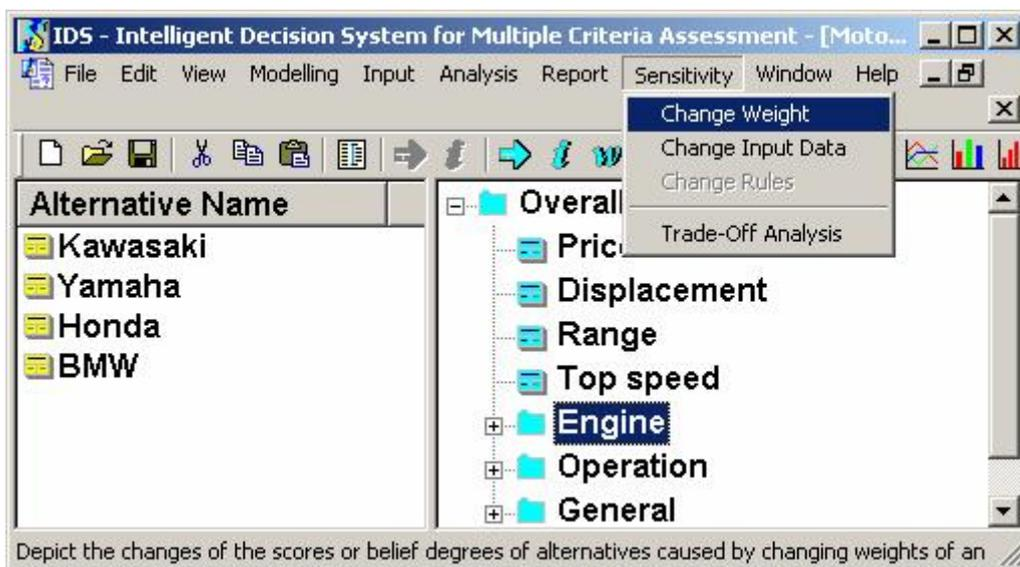
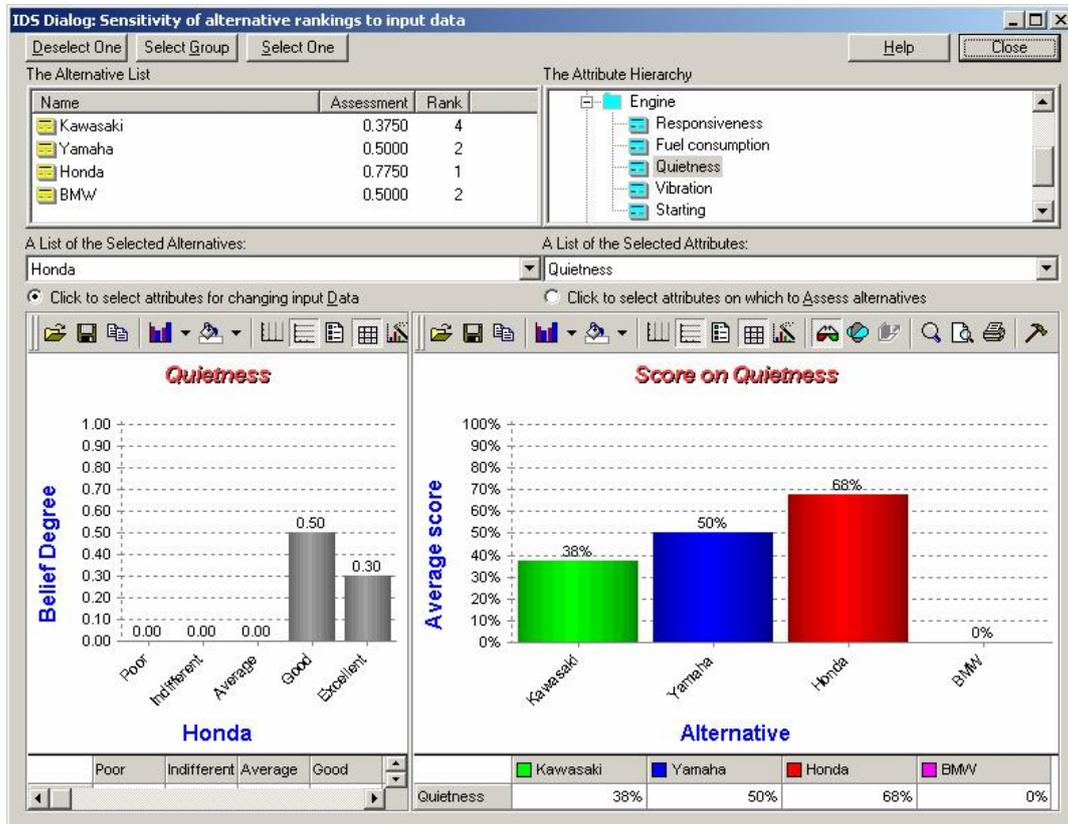
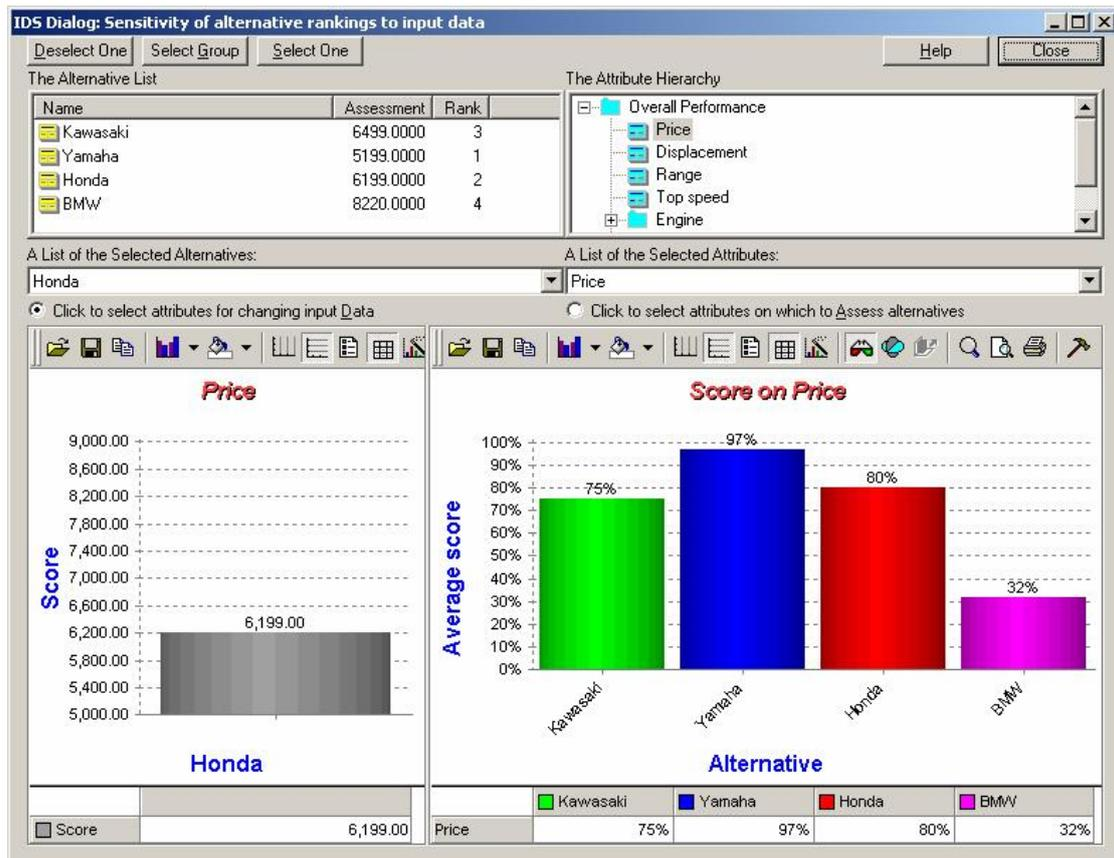
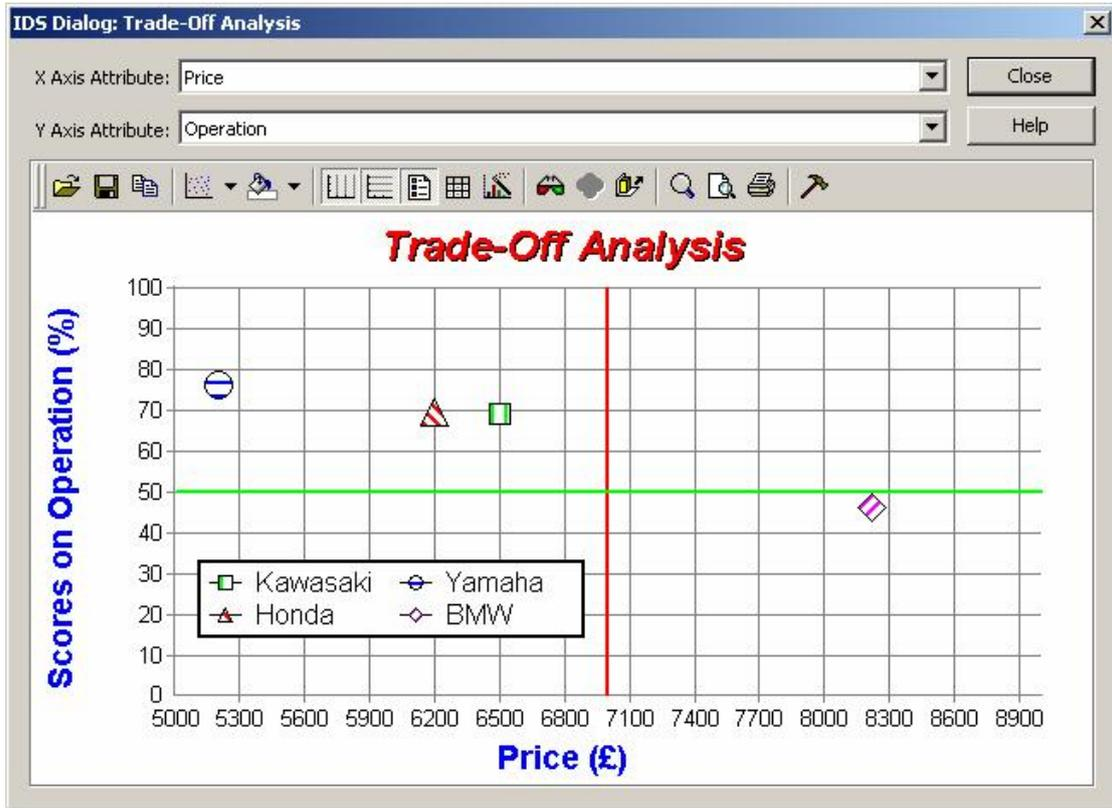

Figure 6.1 Menu Selection for Sensitivity Analysis
Figure 6.5 Ranking Sensitivity Analysis on Change of Input Data for Qualitative Attributes
Figure 6.6 Ranking Sensitivity Analysis on Change of Input Data for Quantitative Attributes
Figure 6.7 Trade-Off Analysis
1. Click once on the attribute you are interested in changing its weight, for example, *Engine*, in the right pane of the IDS main window (**Figure 6.1**),
2. Select from the menu bar of the main window *Sensitivity -> Change Weight* (**Figure 6.1**). This will invoke a graphic window shown in **Figure 6.2**.
If you are only interested in the ranking of a number of alternatives, you may add or remove alternatives displayed in the lower right pane of the window by clicking on the alternatives listed in the upper left pane or the *A List of the Selected Alternatives:* dropdown list (**Figure 6.5**), and then clicking the button *Select One* or *Deselect One* respectively. Check that the alternatives listed in the *A List of the Selected Alternatives:* dropdown list are what you are interested in.
1. Click once on an alternative, for example *Honda*, in the left pane of the IDS main window (**Figure 6.1**) to select it.
2. Click once on the attribute in the right pane of the IDS main window (**Figure 6.1**) on which you wish to change the assessment data for the selected alternative. The attributes have to be at the bottom level of the hierarchy, for example, *Quietness*, in the right pane of the IDS main window (**Figure 6.1**),
3. Select from the menu bar of the main window *Sensitivity* -> *Change Input Data* (**Figure 6.1**). This will generate a graph shown in **Figure 6.5**.
dragging and dropping the bars (from the top edge or zero level if the belief degree is 0.00 and the bar is not shown) corresponding to the belief degrees of the assessment grades for the attribute if it is of a qualitative type (**Figure 6.5**) or the attribute value if it is of a quantitative type (**Figure 6.6**). The scores of all the alternatives on the selected attribute change accordingly and are dynamically updated in the lower right pane of the window.
There are various options in this window to allow you to select any alternative and any bottom level attribute for changing input data through the lower left pane of the window (Figure 6.5 or Figure 6.6). You can also choose any attribute or a number of attributes from different levels in the hierarchy on which to view the ranking changes simultaneously.
If you are only interested in the ranking of a number of alternatives, you may add or remove alternatives displayed in the lower right pane of the window by clicking on the alternatives listed in the upper left pane or the *A List of the Selected Alternatives:* dropdown list (Figure 6.5), and then clicking the button *Select One* or *Deselect One* respectively. Check that the alternatives listed in the *A List of the Selected Alternatives:* dropdown list are what you are interested in.
If you wish to add or remove attributes in the lower right pane of the window, so that you can examine the rankings of the alternatives on these attributes, you should first make sure the radio button (on the right) *Click to Select attributes on which to Assess alternatives* is selected. Then you can click on the attributes listed in the upper right pane or the *A List of the Selected Attributes:* dropdown list (Figure 6.5), and click the button *Select One* or *Deselect One* respectively.
From the window shown in **Figure 6.5**, you may select any bottom level attribute for changing input data for a selected alternative. Changing the selection of an alternative is discussed in the next section.
If you wish to change the assessment information for the attribute currently displayed in the lower left pane of the window, you should first make sure that the radio button (on the left) *Click to Select attributes for Changing input Data* is selected. Then you can double click on the attribute you wish to select from the upper right pane (**Figure 6.5**). As soon as you double click on the attribute, the assessment information for the selected alternative on the attribute will be displayed in the lower left pane of the window. You may use the mouse to drag and drop the edge of the bars to change the input data and see the effects of the changes in the lower right pane.
To change the selection of alternative for changing input data on the selected attribute is simple. You need only to click once on the bar corresponding to the alternative in which you are interested in the lower right pane of the window (**Figure 6.5**). If the alternative is not shown in the pane, you may follow the instruction described in **Section 6.2.1** to add it on in the lower right pane of the window.
1. Click once on an attribute in any level of the attribute hierarchy, for example *Price*, in the right pane of the IDS main window (**Figure 6.1**).
3. Click the  button from the toolbar of the main window (**Figure 6.1**). This will invoke the graphic window shown in **Figure 6.7**.